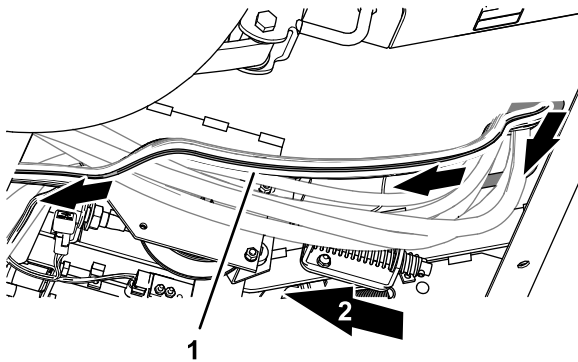

Figure 170
3. At the bottom of the machine, route the ISO-CAN bus harness along the wire harness of the machine (Figure 170).